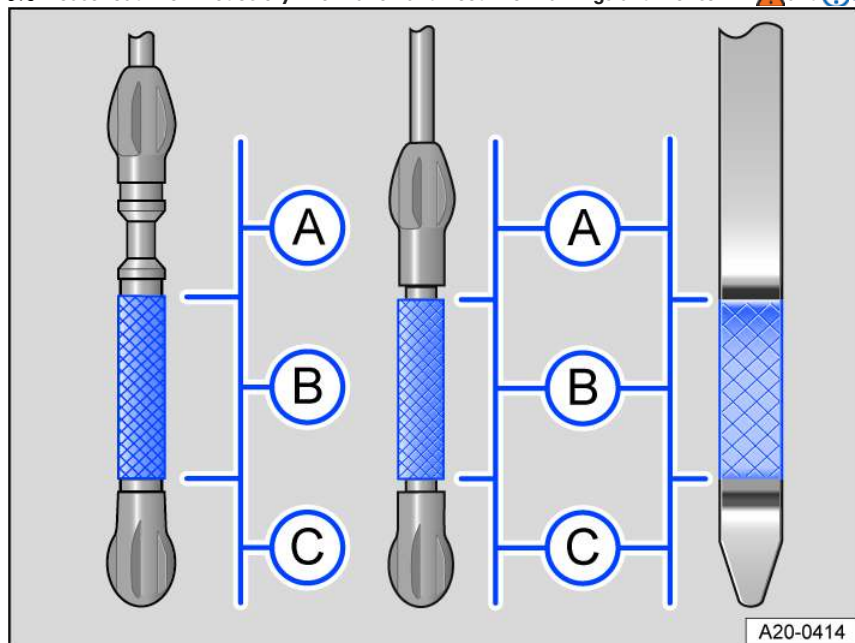
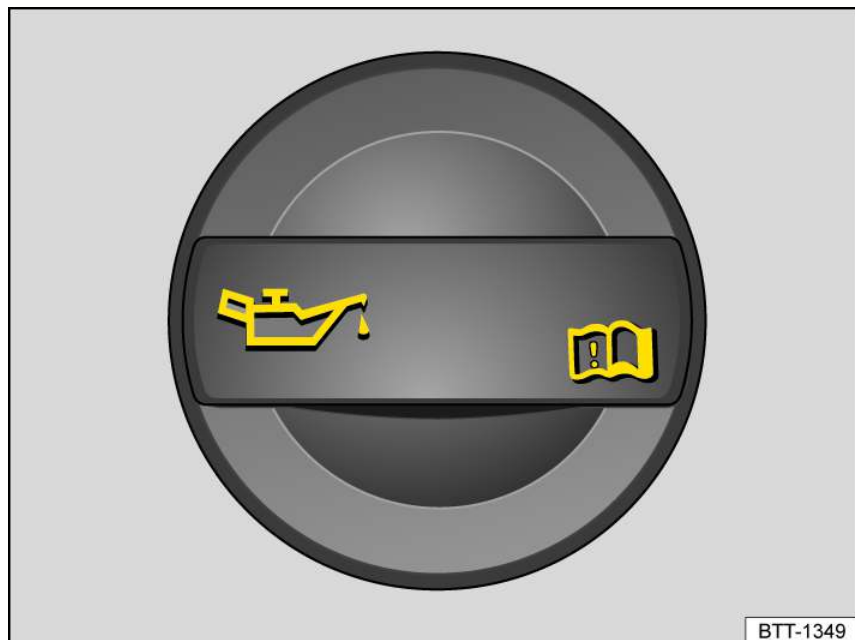

Fig. 140 Engine oil level markings on the oil dipstick (versions).
Fig. 141 In the engine compartment: engine oil filler cap (general example).
4. Find the engine oil filler and the dipstick. You can identify these by the  symbol on the engine oil filler cap *fig. 141* and the colored handle on the dipstick *fig. 140*. If you are not sure where the cap and the oil dipstick are located, contact suitably qualified professionals for assistance. Volkswagen recommends contacting an authorized Volkswagen dealer or authorized Volkswagen Service Facility.
7. Remove the dipstick again and read the oil level on the dipstick as described below *fig. 140*:
9. Remove the cap on the engine oil filler *fig. 141*.
13. When you are done adding oil, the oil level should be in the center of area *fig. 140* **B**. The engine oil level must not be in the area *fig. 140* **A**.
14. If you accidentally add too much oil and the oil level is in area *fig. 140* **A**, **do not start the engine**. Inform an authorized Volkswagen dealer or authorized Volkswagen Service Facility. Volkswagen recommends contacting an authorized Volkswagen dealer or authorized Volkswagen Service Facility.
- If the oil level is in the *fig. 140* **A** range, do not start the engine, and contact an authorized Volkswagen dealer or authorized Volkswagen Service Facility. Volkswagen recommends contacting an authorized Volkswagen dealer or authorized Volkswagen Service Facility.